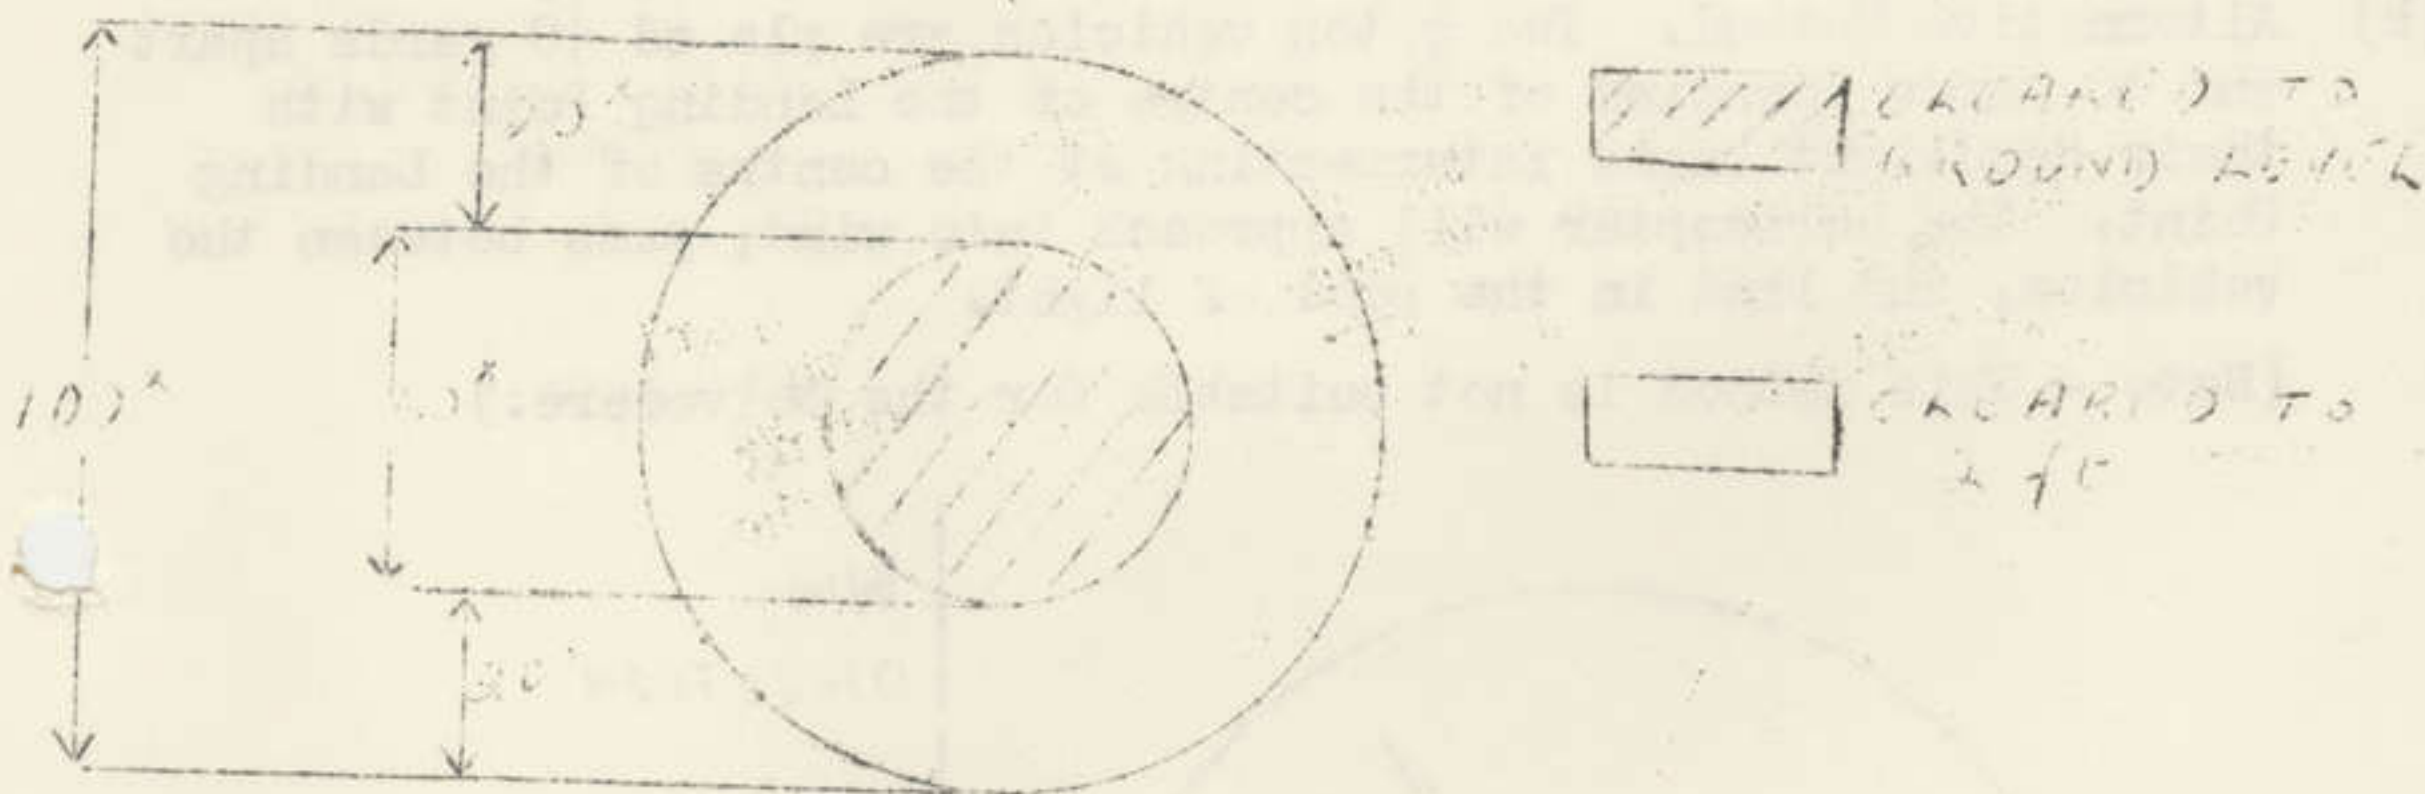

Figure 7 - Night Landing Site
10. Dimensions. The minimum diameter of a night Landing Point for all types of helicopters is 100 yards (Figure 7); within this area:-